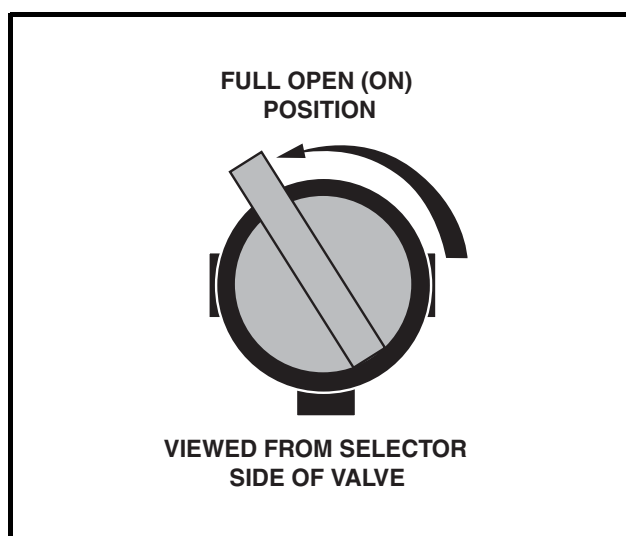
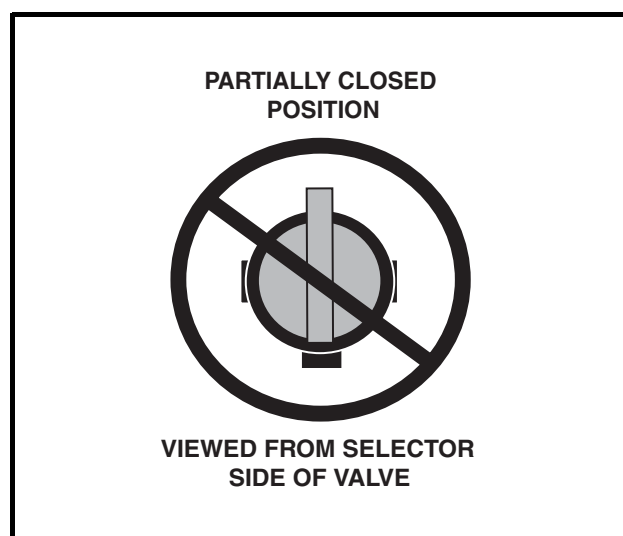

Figure 12 Fuel Shut-off Valve – Open Position
Figure 13 Fuel Valve – Partially Closed Position
4. **Gasoline vehicles only:** Completely open the fuel shut-off valve (**Figure 12, Page 26**). Ensure the valve is fully open. A partially closed fuel shut-off valve combined with the use of the choke can result in a fouled spark plug and engine failure (**Figure 13, Page 26**).
- Gasoline vehicles only: Turn fuel shut-off valve to the closed (OFF) position (Figure 13, Page 28).